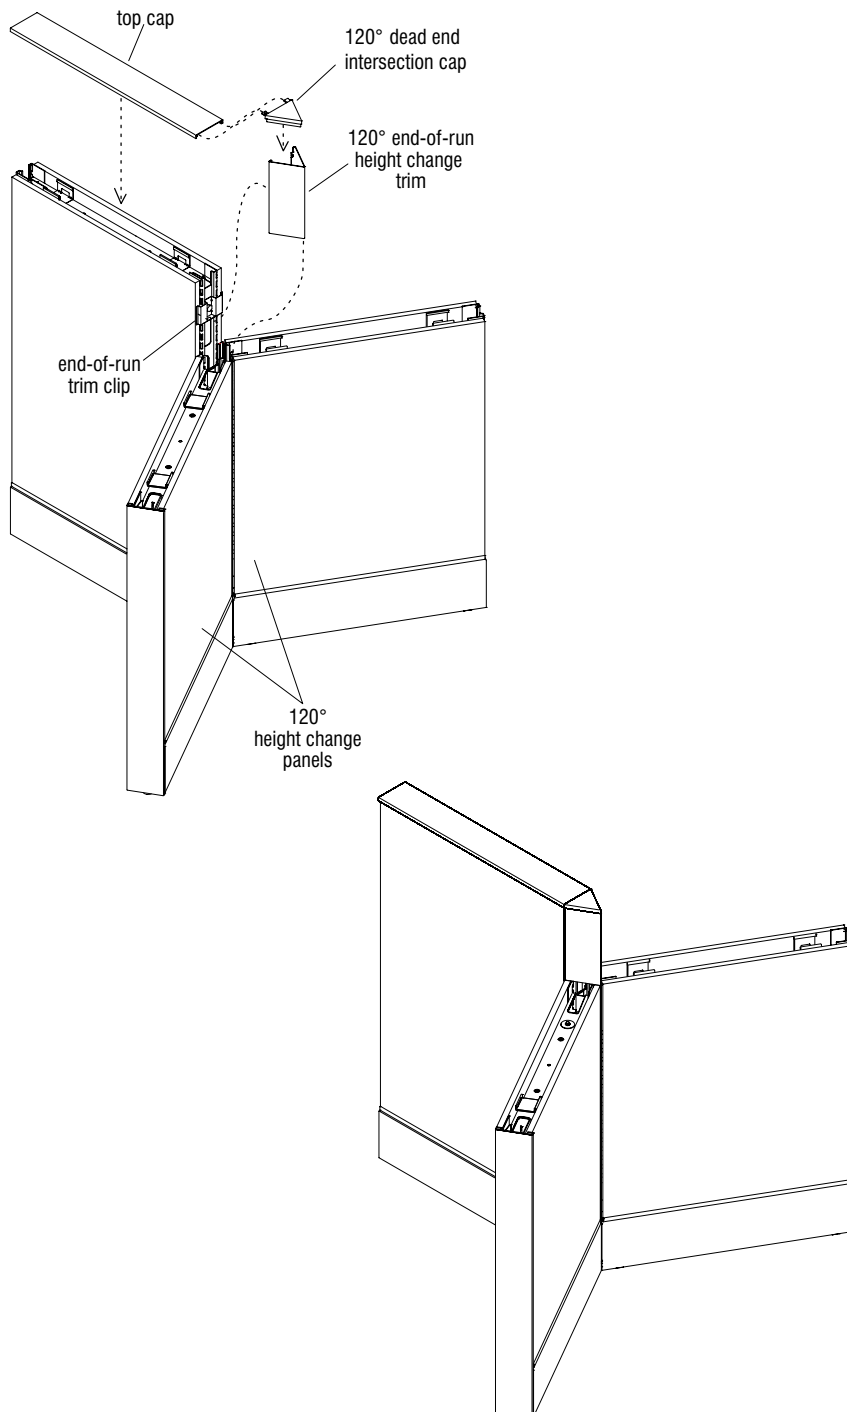

Figure 16 - End-of-Run 120° Height Change Vertical Trim
1. Orient the “120° end-of-run height change trim” with the top up, so it aligns properly with the installed end-of-run trim clip. Correctly positioned, the longer tabs of the trim will be to the top, and the smaller tabs with paint-hanging hole will be at the bottom. The bottom of the upper tabs will rest on the top edge of the end-of-run trim clip (Figure 16).
2. Hook one side of the 120° end-of-run height change trim onto the end-of-run trim clip. Rotate the hooked trim towards the un-clipped side, up against the trim clip and snap the trim into place by striking at the side opposite the loose side, toward the loose side with a rubber mallet or the palm of your hand. Ensure that the clip(s) are fully engaged to prevent trim from falling off (Figure 16).
3. Finally, orient the “dead end intersection cap” as illustrated and insert the tabs of the cap into the narrow slots in the top cap. Mate the dead-end intersection cap into the top of the end-of-run height change trim and snap the top cap into place at the top of the panel frame (Figure 16).